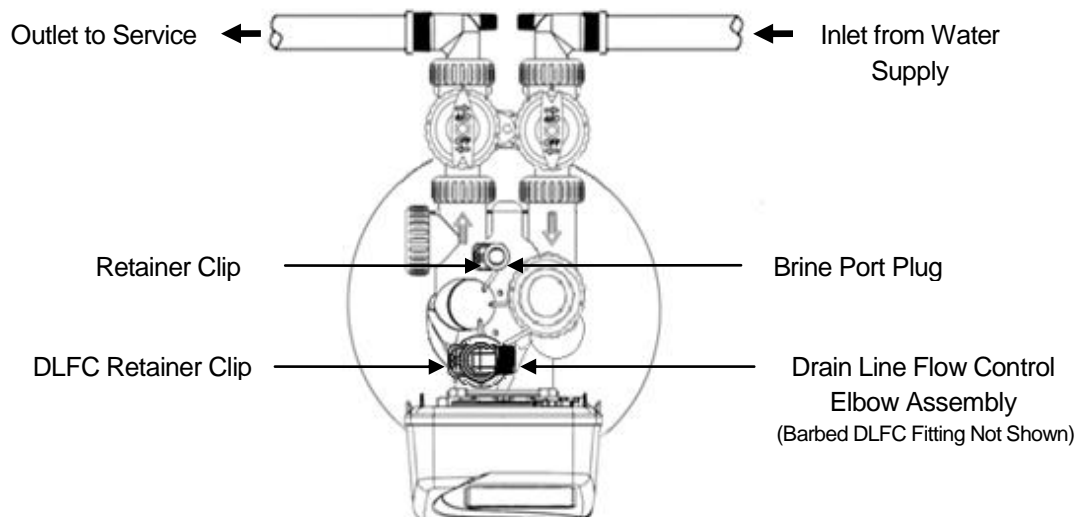

FIGURE 6: Top View of Control Valve with Bypass Installed
- STEP 8:** **Apply thread tape to DLFC Assembly.** Remove drain line flow control (DLFC) retainer clip (Figure 6, Page 6) and remove the DLFC assembly from the valve body, (Figure 6, Page 6). Unscrew drain line elbow from DLFC. Apply thread tape to threads and re-attach the barbed drain line elbow (not shown). Reinsert DLFC assembly into the valve body, making certain it is FULLY inserted before replacing the retaining clip.
- 11) Attach bypass valve (Figure 6, Page 6) to control valve body.
- 12) Reattach Drain Line to Control Valve (Figure 6, Page 6).